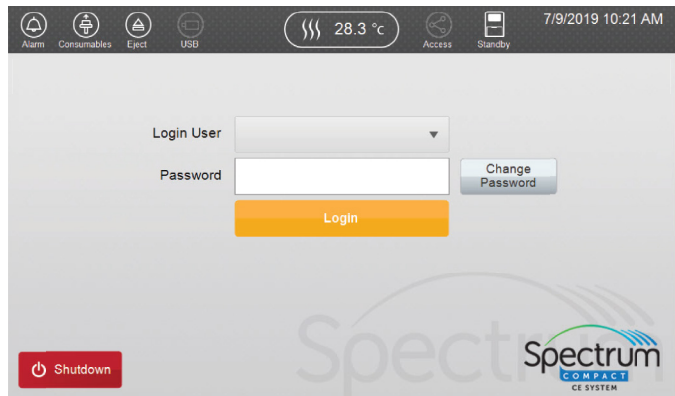

Figure 183. 'Login' screen.
- Select **Logout** in the footer of the 'Main Menu' screen (Figure 182) of the Spectrum Compact Control Software. A confirmation window will appear asking "Are you sure you want to log out?". Select **Yes** to proceed to 'Login' screen (Figure 183). Select **No** to return to the 'Main Menu' screen (Figure 182).
2. Select **Shutdown** in the 'Login' screen (Figure 183).